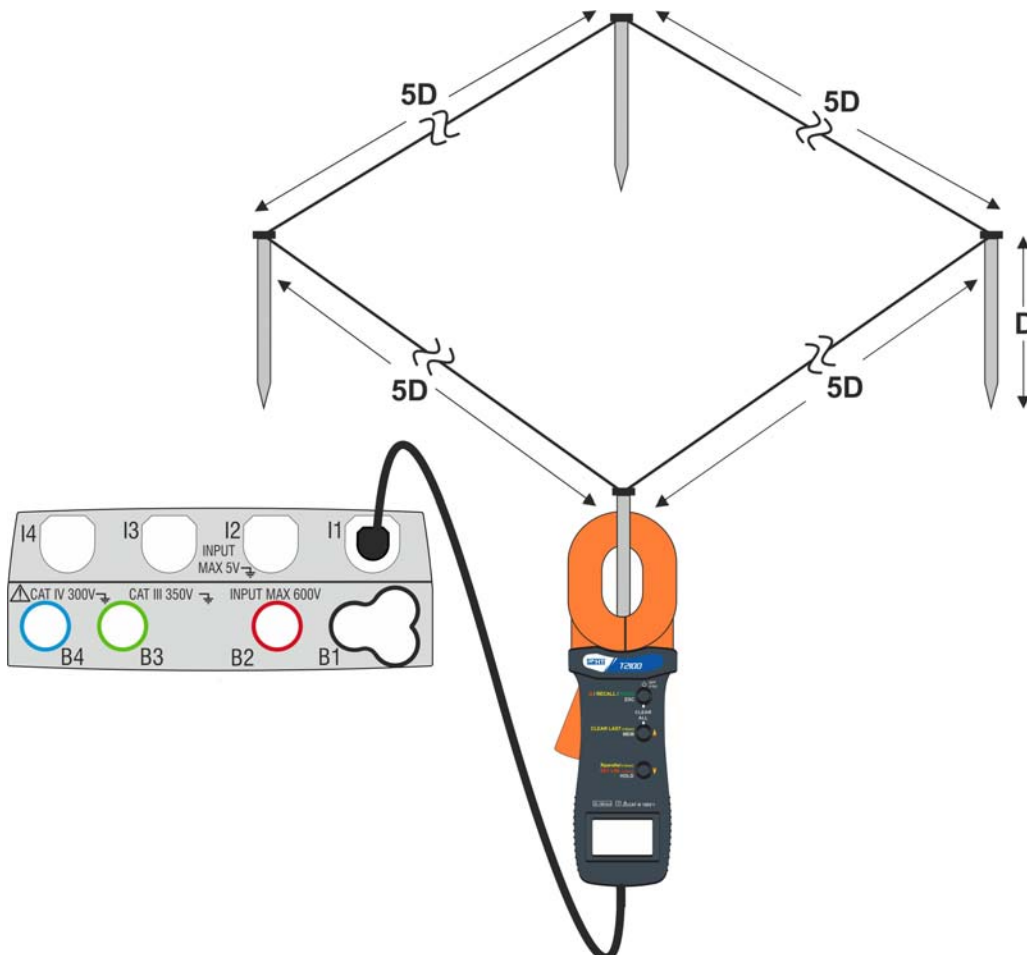

Fig. 31: Resistance measurement of single rods with clamp T2100
The measurement carried out by clamp T2100 can be used to evaluate single rods resistance values within an earth installation without disconnecting the rods, **assuming they do not affect each other** (see Fig. 31).
4. Connect the clamp to the first rod of the earth network considered as shown in Fig. 31. Note the value of the resistance in the  $R$  field and press the icon to insert this value in the calculation of parallel resistance and increase the  $N$  parameter by one unit ( $N = 1$ )